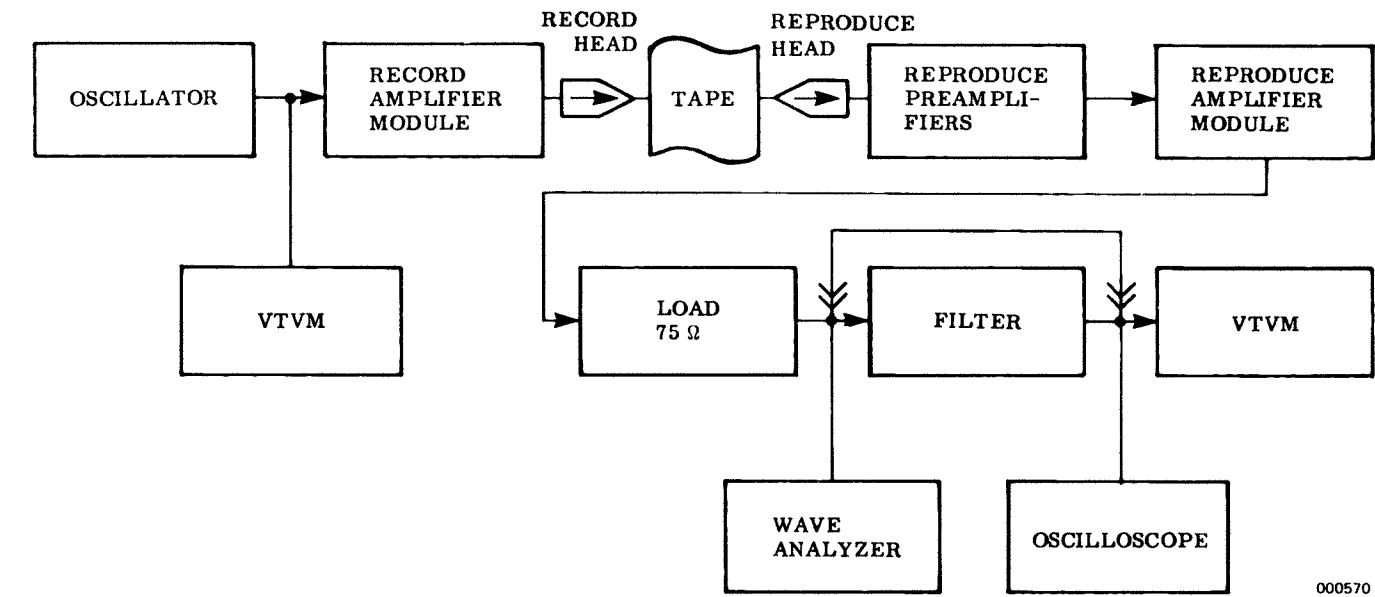

Figure 7A-1. Direct Record/Reproduce System Test Setup
The test equipment setup for the electronic performance checks is shown in Figure 7A-1. The tools and materials required are listed in Table 7A-1.
Using the direct record/reproduce system test setup (Figure 7A-1) the operator can preform a confidence check of the signal electronics by the following procedures:
- a. Set up the test equipment as shown in Figure 7A-1 but with the filter connected.
- a. Set up the test equipment as shown in Figure 7A-1, with the filter out of the circuit. The vtm at the output is not required. Set the oscillator for the normal operating input level of the first channel to be checked, and at a frequency of two times the record level set frequency.
The test equipment setup for the electronic performance checks is shown in Figure 7A-1 on page 7A-1. The tools and materials required are listed in Table 7A-1 on page 7A-1 of this section.
Using the direct record/reproduce system setup (Figure 7A-1) the operator can preform a confidence check of the signal electronics by the following procedure: